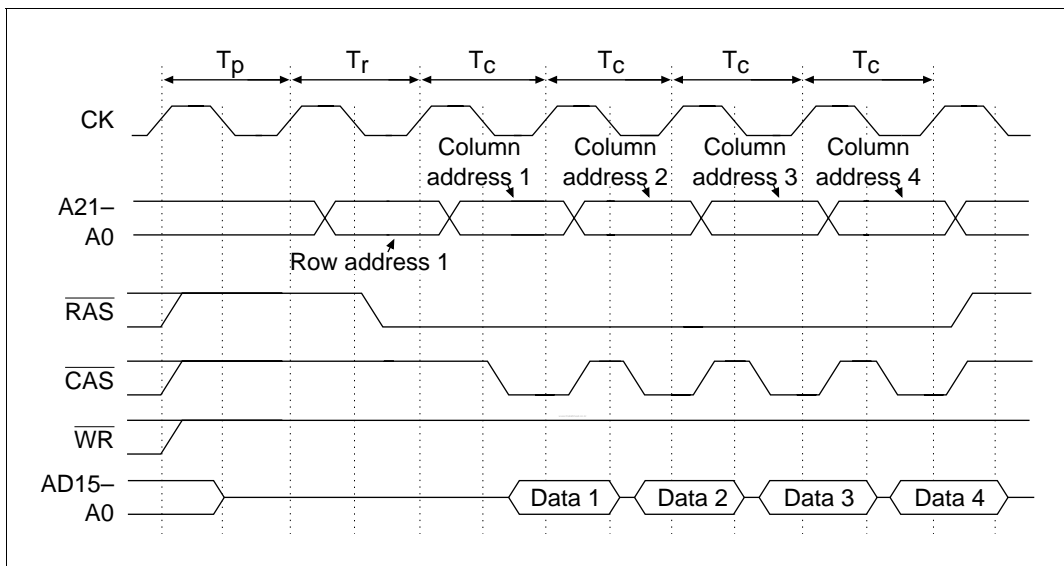

Figure 8.23 Short Pitch High-Speed Page Mode (Read Cycle)
- Short-pitch, high-speed page mode: When the RW1, WW1, DRW1 and DWW1 bits in the WCR1 and WCR2 are cleared to 0, and the corresponding DRAM access cycle is continuing, the $\overline{\text{CAS}}$ signal and column address output cycles continue as long as the row addresses continue to match. The column address output cycle is performed in 1 state and the $\overline{\text{WAIT}}$ signal is not sampled. Figure 8.23 shows the read cycle timing for the short pitch high-speed page mode.